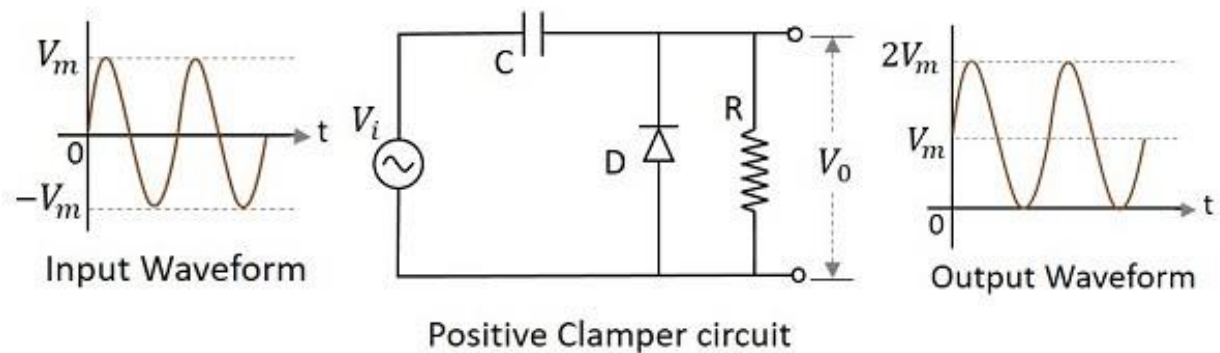

Figure 13.2: Circuit diagram of Positive Clamper Circuit
13.2 Draw electronic circuit diagram of a Positive Clamper Circuit as shown in Figure 13.2